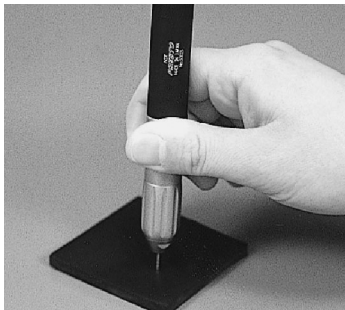

Fig. 1
(1) Push in the bur to the chuck as shown in Fig. 1.